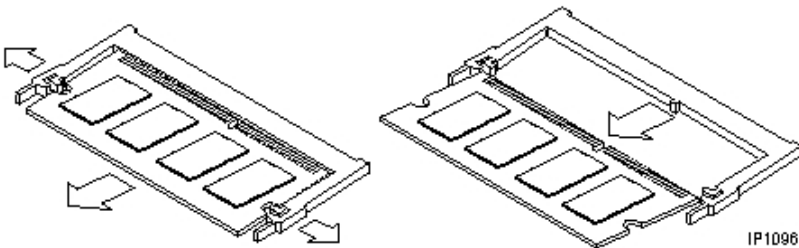

Figure 93: Memory Module Removal
- pull both spring retainer clips on either side of the module outward (see Figure 93).